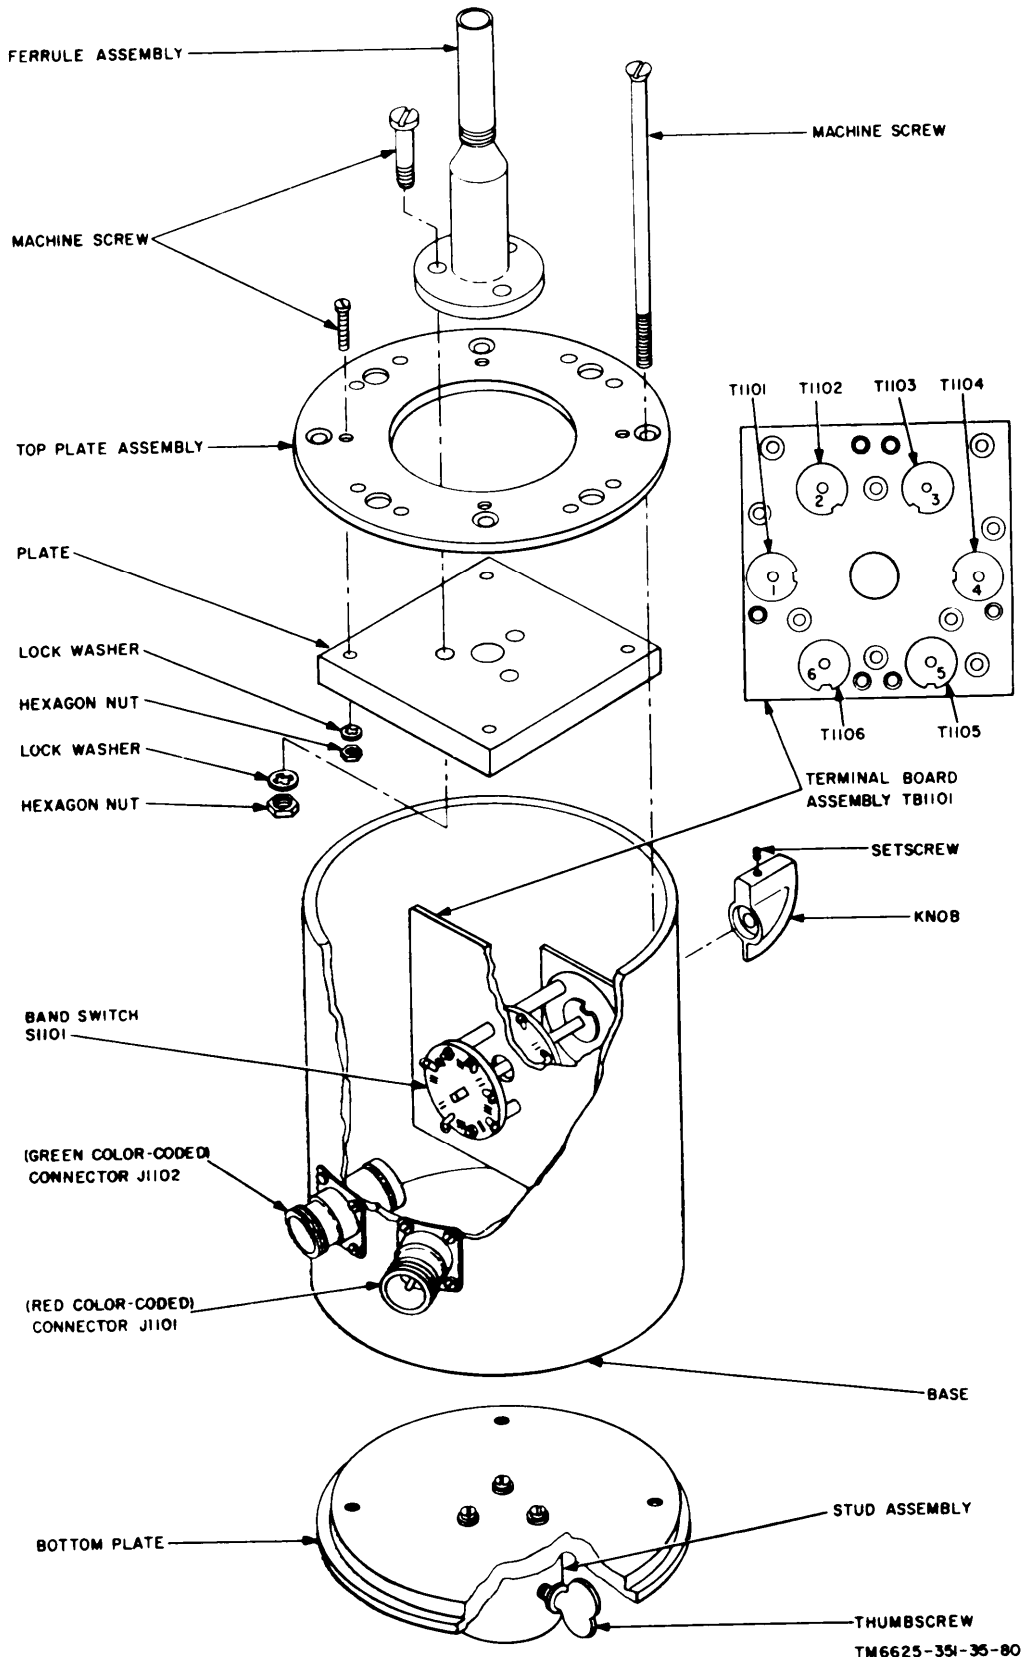

Figure 81. Coupler, Antenna CU-890/URM-85 for vertical antenna, parts location diagram.
tripod mast serves as the mounting post for the CU-890/URM-85. Insert the s t u d assembly at the bottom plate of the CU-890/URM-85 (fig. 81) all the way over the protruding post, and tighten the thumb s c r e w provided on the antenna coupler stud assembly. Insert the five series-connected lengths of Mast Section AB-21/GR into the ferrule assembly at the top of the CU-890/URM-85, and proceed with the equipment performance checklist as outlined in paragraph 43c, steps 63 through 69, TM 11-6625-351-12.
- (3) If trouble is encountered in testing any one of the six bands, refer to the schematic diagram (fig. 37), and to the exploded view (fig. 81). Avoid unnecessary disassembly; follow the exploded view and disassembly only to the extent necessary to correct the trouble. Possible sources of trouble are:
(d) Open or shorted circuit in the signal output red color-coded connector J1101 (fig. 81). Check for continuity from the center conductor to the wiper arm of switch section S1101B. Also check for infinite resistance between the center conductor of J1101 and the outer shell. If replacement of J1101 is required, be sure to tag the lead connected from S1101B wiper arm to J1101, before unsoldering, to facilitate proper rewiring.